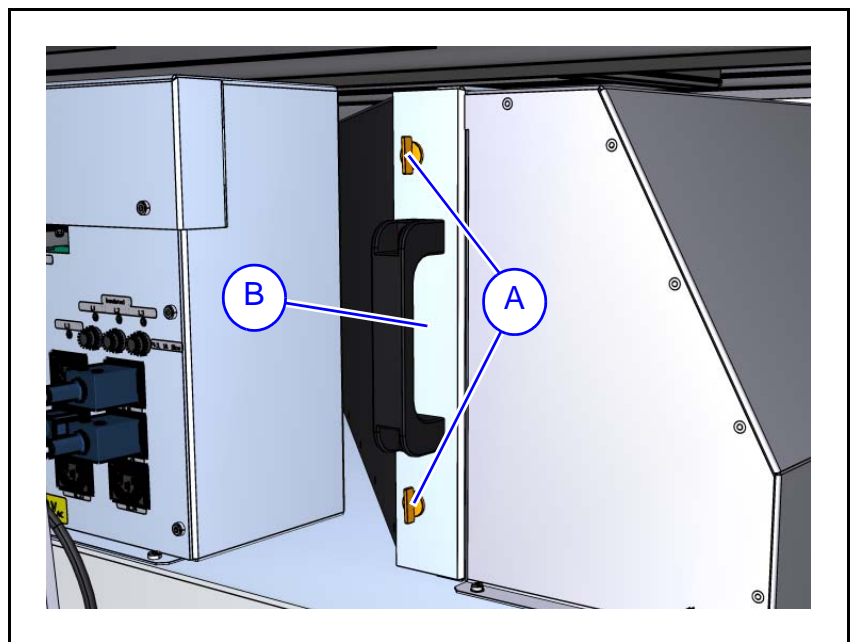

Figure 16-23. Fan assembly.
2. Turn the two locks ('A' in Figure 16-23) on the filter cassette one quarter of a turn to unlock the cassette with the filter mat ('B').